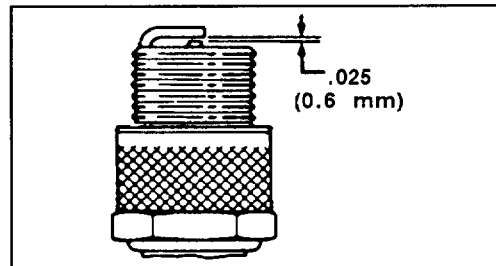

Figure 16
3. Set air gap at .025" (0.6 mm) (Fig. 16). Install correctly gapped spark plug and gasket seal. Tighten plug firmly to 9 ft-lb (1.2 Kg-m).